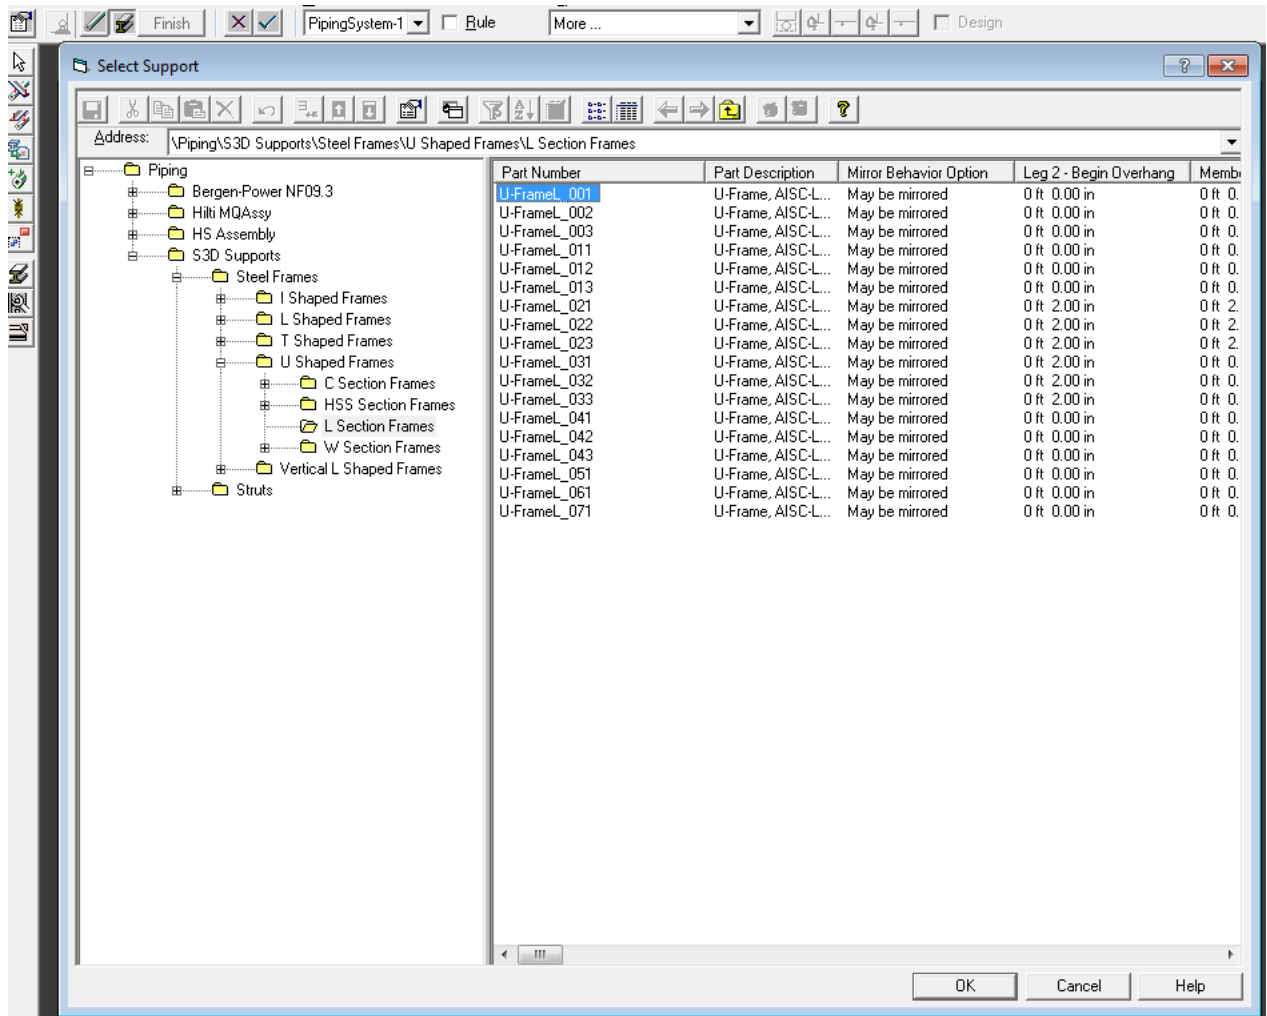

Figure 3: The drop down list of the selected support.
- 2- Click on the U-FrameL_001 under L Section Frames as shown in Figure 3.